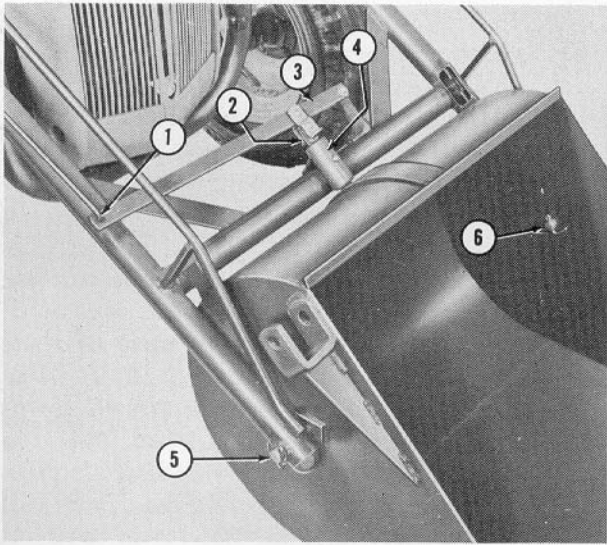

Figure 8
9. Assemble and attach the bucket latch bar (3) and linkage as shown in Figure 8. Insert the spring and the bucket latch pin (2) in the sleeve (4) and connect the linkage as shown. Secure the trip rod to the latch bar with a cotter pin as shown at (1).
10. Attach the bucket (or manure fork) to the lift arms with the large pins (5) and (6) and the cotter pins as shown in Figure 8.